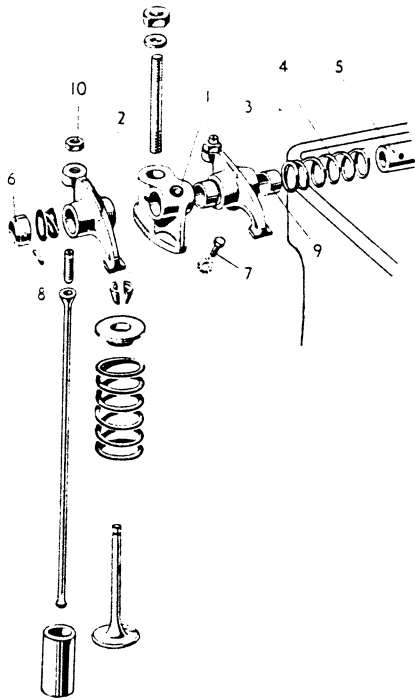

FIG. 11
Rocker Assembly (Fig. 11)
1. Assemble rockers and springs on shaft as shown in Fig. 11 with pairs of rockers converging towards valve pad ends and with the rear pedestal, which has the oil feed drilling, located at the radially drilled and tapped shaft end.